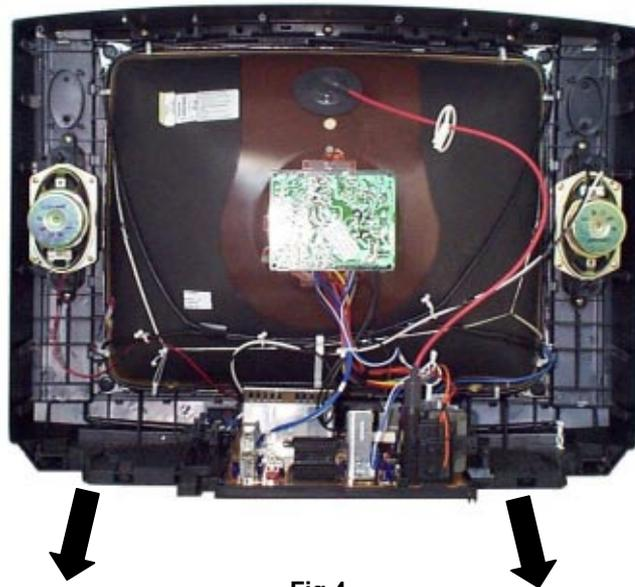

Fig.4.
2. Hold and lift the rear of the E-PCB chassis and gently pull the chassis toward you, as shown in **Fig.4**.